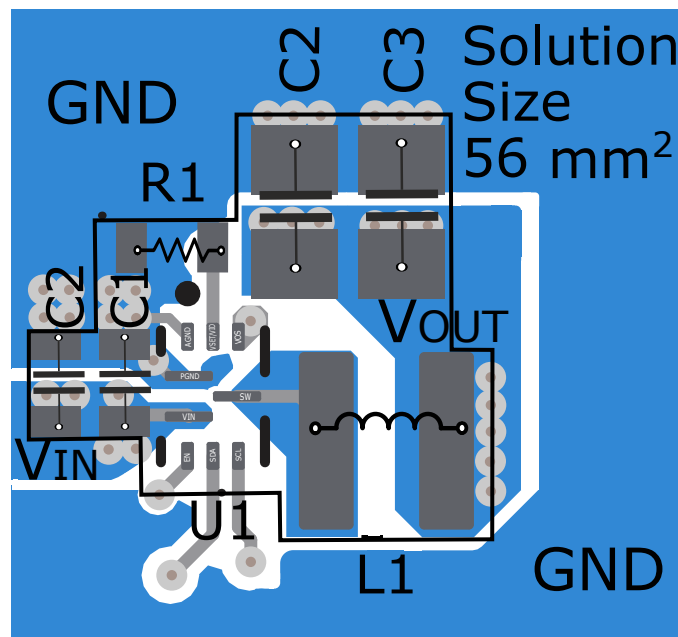

Figure 11-1. Layout Example
- Refer to Figure 11-1 for an example of component placement, routing, and thermal design.